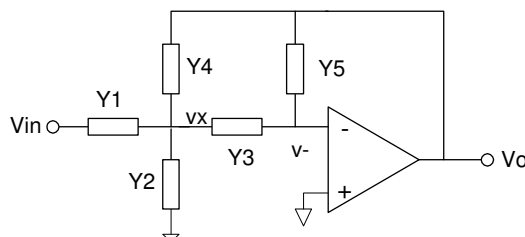

Fig. 3.1b. Multiple feedback second-order filter.
Filters are used in electronics for the selection of information that is located in a specific frequency band. A popular structure is the so-called multiple feedback topology shown in figure 3.1b. Two feedback paths can be observed in this circuit, the first one due to Y_4 and the second one due to Y_5 . Both feedback trajectories provide negative feedback, that makes the circuit is stable. The voltage gain of this structure can be found by solving the nodal equations at node v_x and the OPAMP's inverting terminal. Those equations can be written as (find it!):
1. For the **first row we consider the nodal equation at node v_x** . For the element 11 of the admittance matrix we have to consider all the admittances connected to v_x ; since v_x is the first node we are considering. In fig. 3.1b, the elements connected to v_x are Y_1 , Y_2 , Y_3 , and Y_4 .
A Particular case of this circuit is the **Second order LOW-PASS transfer function**. Replacing some of the admittances in Fig. 3.1b by the resistors and capacitors shown below, the circuit behaves as a second order lowpass filter. From equation 3.4b it can be found that